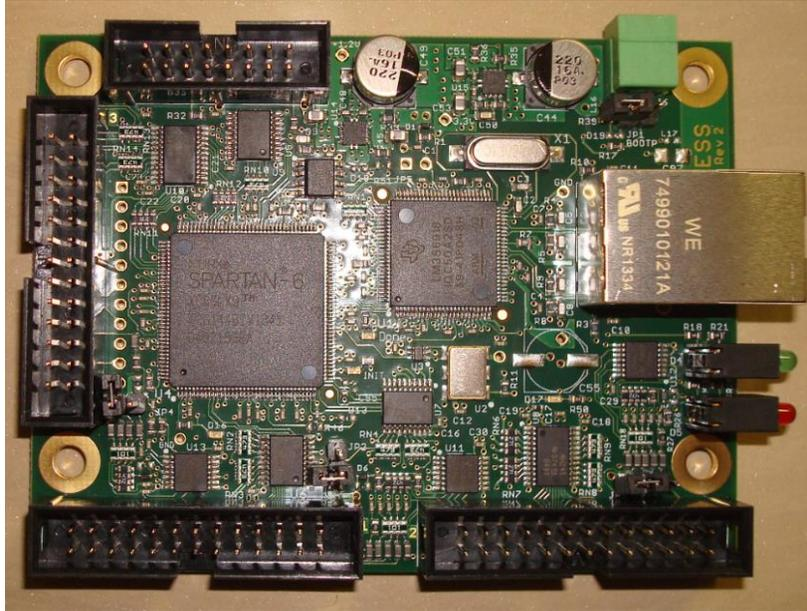

Figure 3-1 ESS Board
- 1) Unpack the ESS kit and familiarize yourself with its contents shown in Figure 3-1 ESS Board.